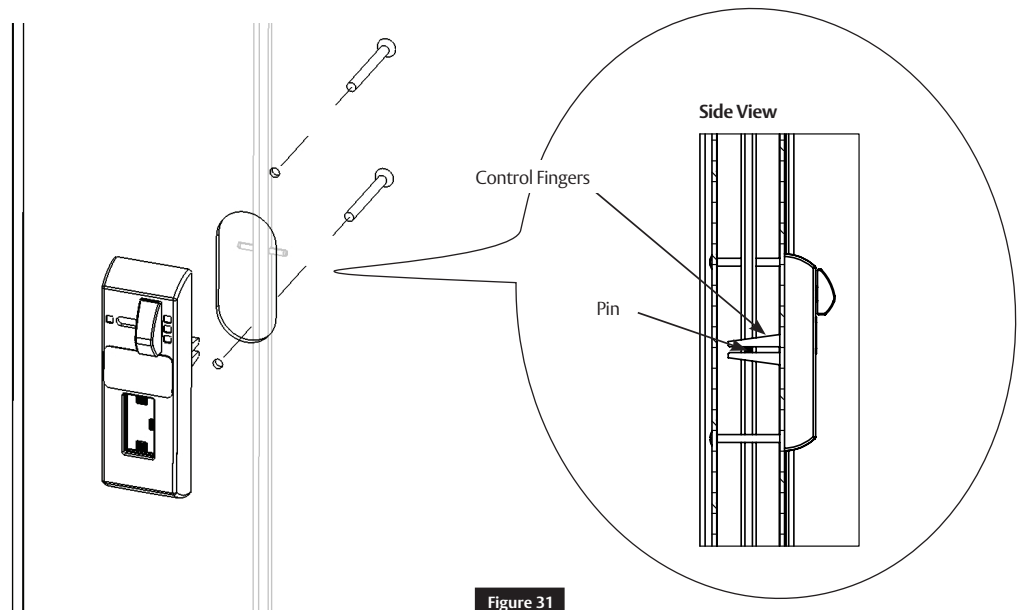

Figure 31
5. Install indicator on inside of door using supplied 10-24 x 2" oval head screws. Make sure control fingers grab top rod pin as shown. (Figure 31)